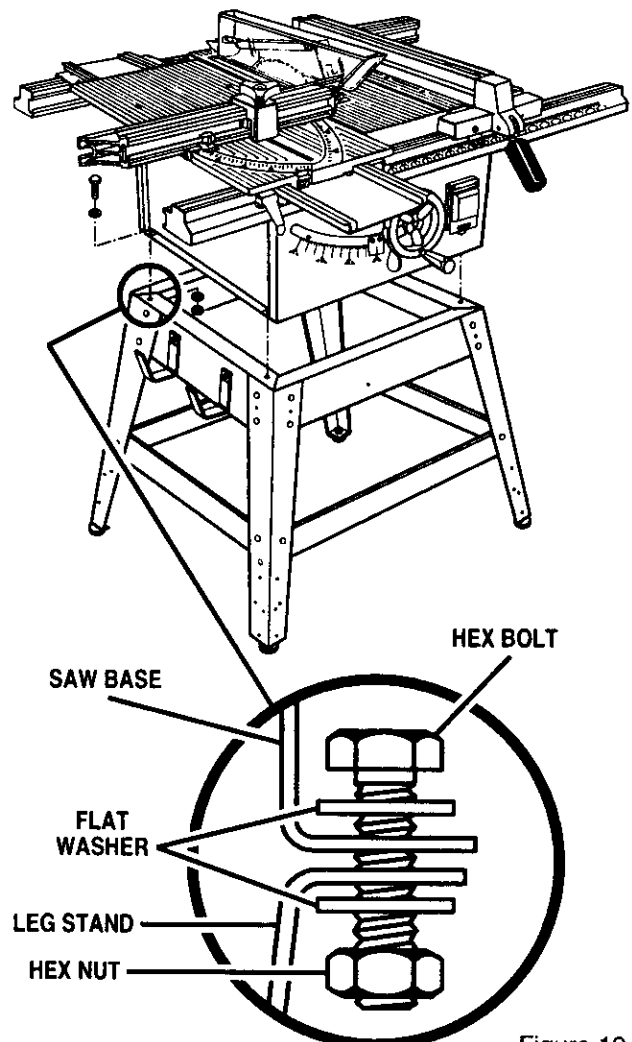

Figure 10
See Figure 10.
- Place a flat washer on a bolt and insert through hole. Add a flat washer and a hex nut. Hand tighten. See Figure 10.